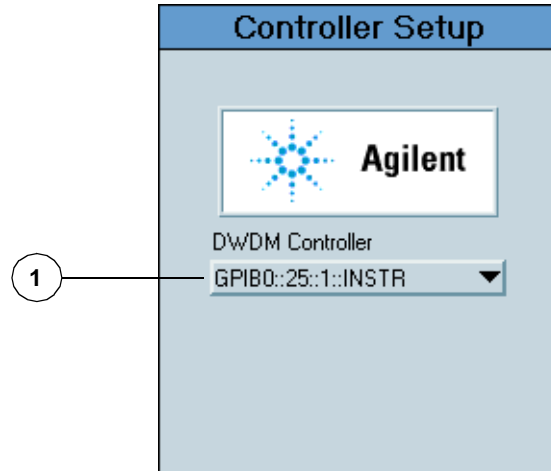

Figure 3-7. Controller Setup Area
- 3 Controller Setup, see Figure 3-7.